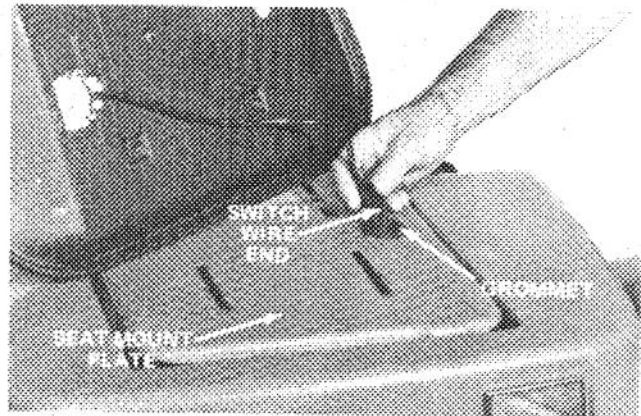

Figure 3
2. Position seat onto mounting plate and insert cable end from seat switch through grommet in plate (Fig. 3).